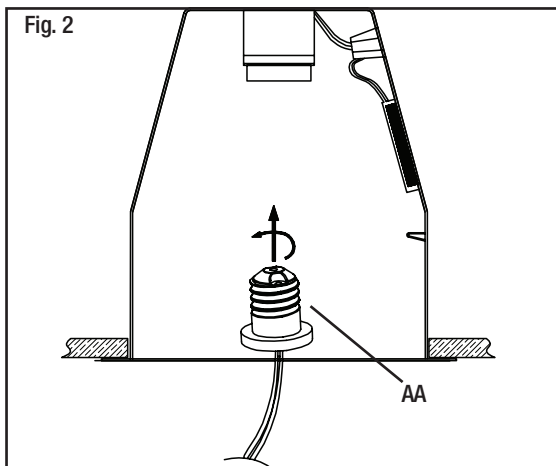

Fig. 2
- Install the adapter (AA) into the socket. (See Fig. 2)